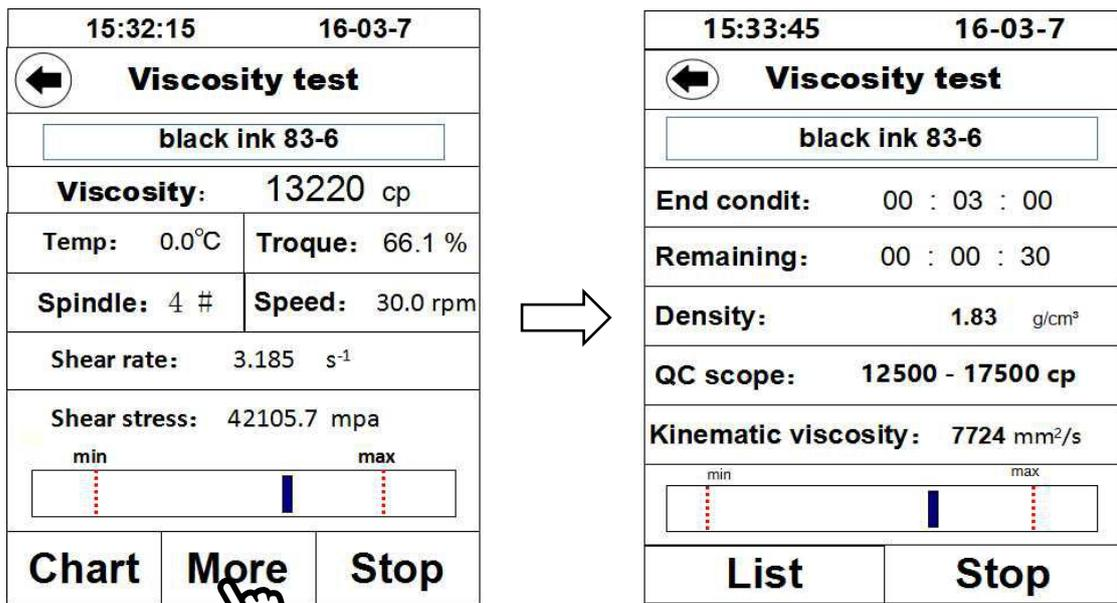

Fig. 23
1.6 Click “**More**” in testing to display the previous optional parameters (Fig. 23), but nothing will be displayed if no parameter is set before testing.